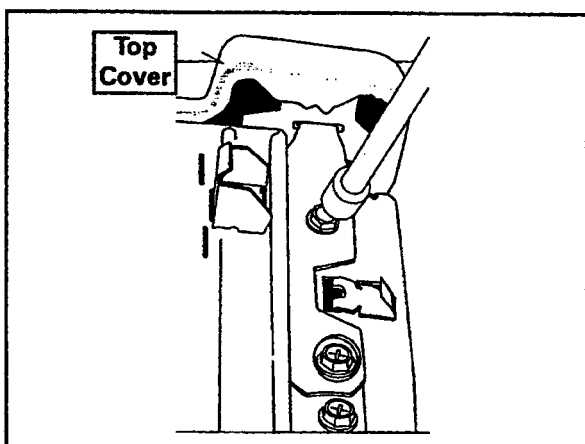

Figure 2-10
4. Remove security hooks by removing the 5/16" hex screws that secure the hook to the cabinet flange. To disengage hook, swing the hook away from the door area (*Figure 2-10*).